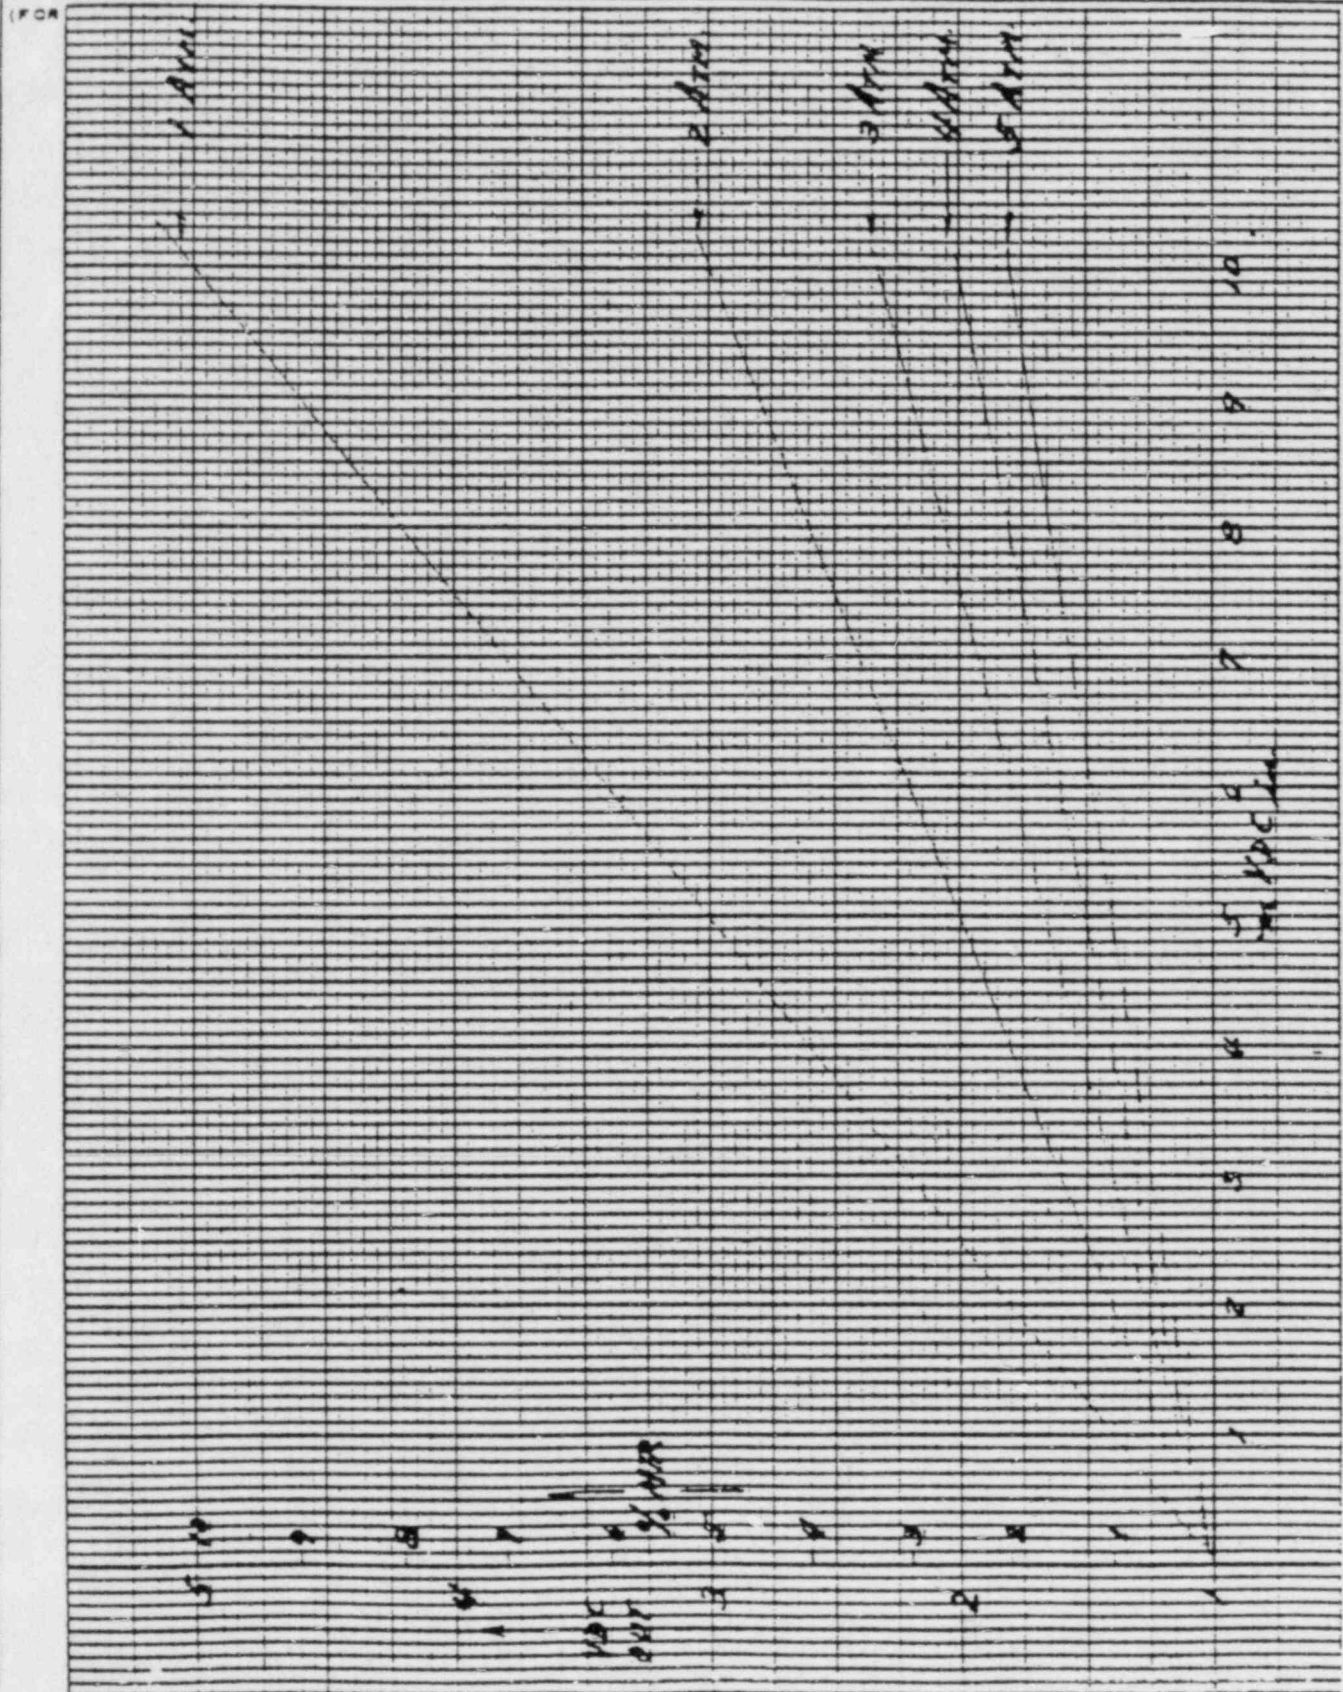

FIGURE 2
- 4.3.11 Adjust V_{inp} for 4.000 ± 0.010 VDC (3 atmosphere equivalent) while maintaining Vins at 10.00 ± 0.01 mVDC. Record the required items on the data sheet. (Refer to Figure 2 for approximate outputs).
- 4.3.12 Adjust V_{inp} for 6.000 ± 0.010 VDC (5 atmosphere equivalent) while maintaining Vins at 10.00 ± 0.01 mVDC. Record the required items on the data sheet. (Refer to Figure 2 for approximate outputs).